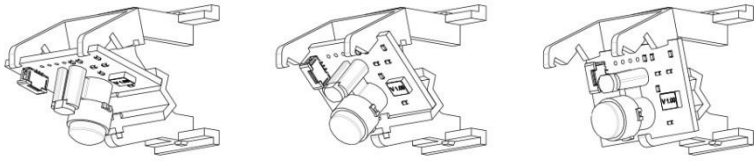

Figure 32. Positioning the PIR
6. REPOSITION the PIR sensor PC board in the modular bracket, as necessary, for increased range (see Figure 32, “Repositioning the PIR”).